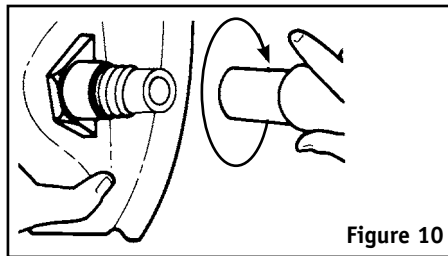

Figure 10
1. Connect breathing tube assembly to helmet by screwing plastic hose connector to fitting located on the side of the helmet. Turn clockwise to tighten. (Figure 10) Ensure you are using a Bullard 88VXBT. The name and part number are stamped on the side of the breathing tube sleeve. The date of manufacture is stamped on the inside of the sleeve.